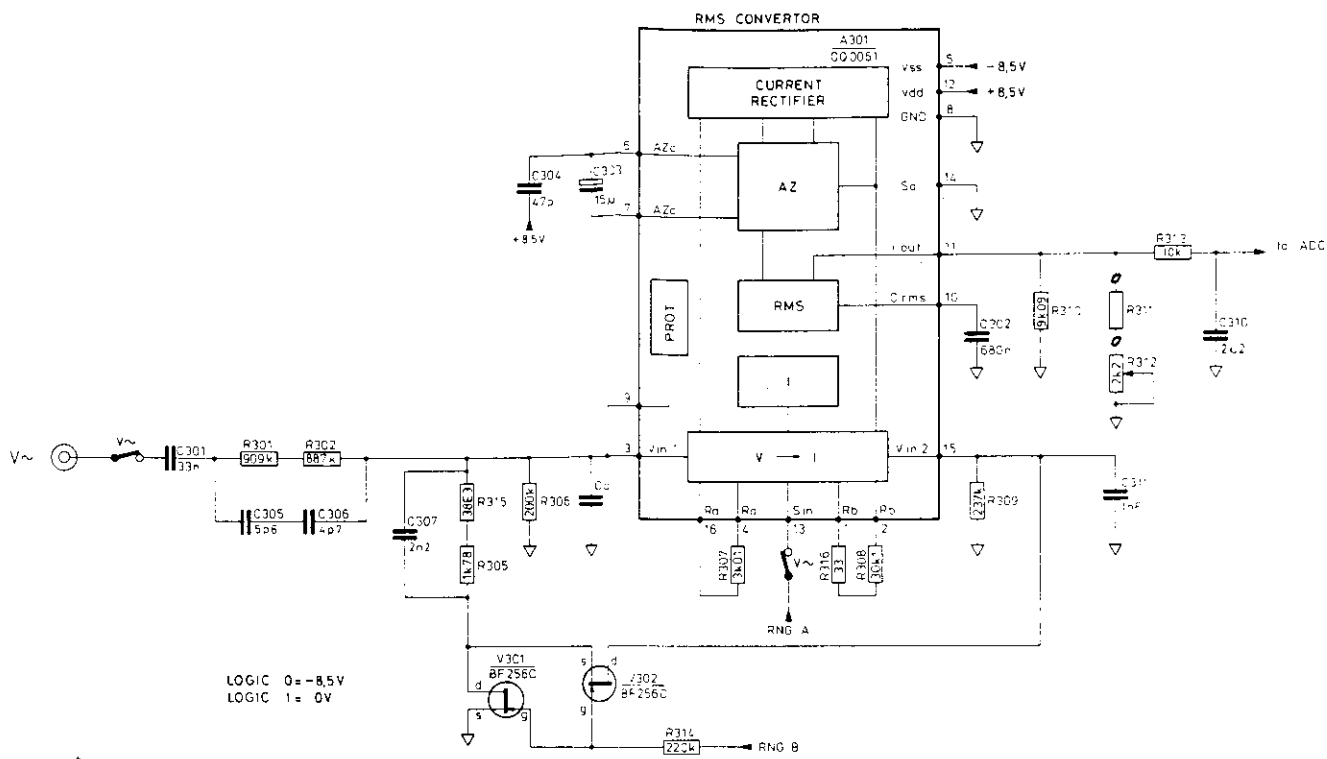

Fig. 13.
3.3.2.2. A.c. voltage measurements (Fig. 13)
– The input circuit for a.c. voltage measurements is shown in figure 13. In the above mentioned table the attenuation, the range control and the input sensitivity of the ac/dc convertor and ADC are given.